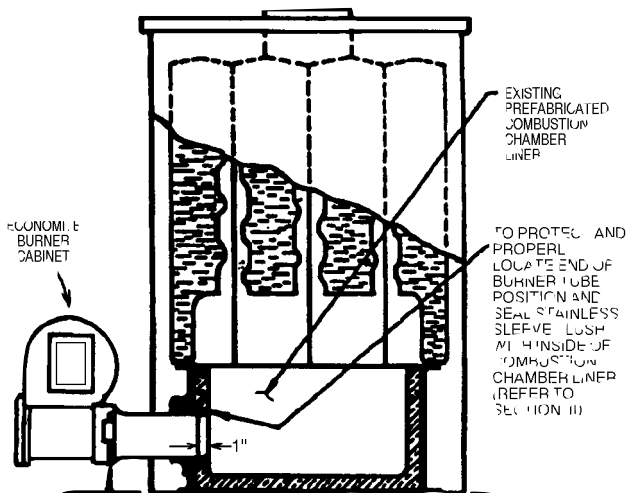

FIGURE 1 Dry Base Boiler with Combustion Chamber Liner (Warm Air Furnace Construction is Similar)
□ The burner tube must be sealed air tight into the combustion chamber opening with refractory material as shown by Figures 1 and 2.
⚠ WARNING: BURNER CABINET MUST BE MOUNTED IN ORIENTATION SHOWN IN FIGURES 1 AND 2. ANY OTHER MOUNTINGS MAY CAUSE A DANGEROUS CONDITION, AND WILL VOID BURNER WARRANTY AND AGENCY APPROVALS. NON-STANDARD ARRANGEMENTS MAY BE AVAILABLE FOR SOME MODELS-CONSULT FACTORY FOR DETAILS REQUIRED.